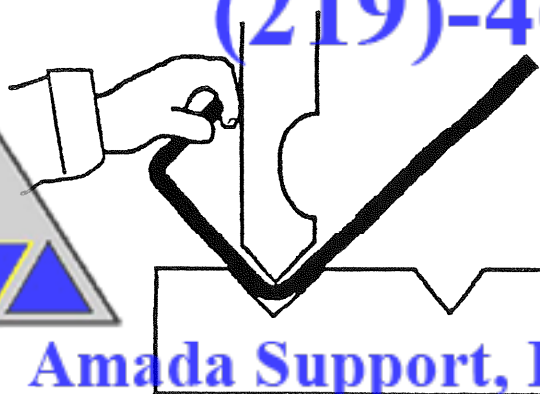

Figure 2.21
• Never hold the sheet by its folded edge; hold it from the sides (Fig. 2.21).